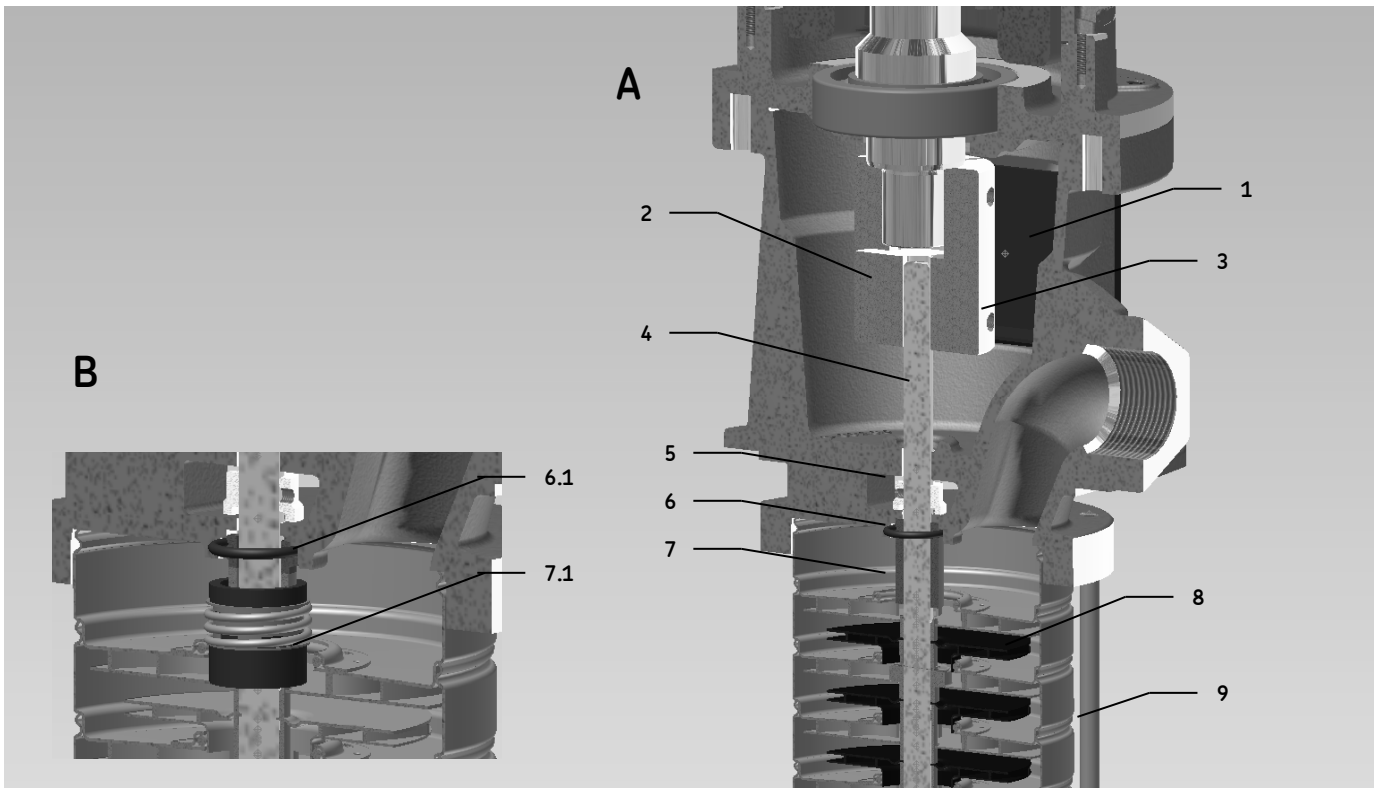

Fig. 3 - Cross section of PSR coupling pump
Work should always take place in accordance with Fig. 3. All PSR immersion pumps share a structure which is more or less the same, so Fig. 3 can be used for all types.
In the case of pumps with a sealing bushing (Fig. 3-A), the sealing bushing itself (7) and the O-ring (6) are replaced. When you insert the new O-ring, make sure that it sits neatly in the groove.
In the case of pumps with a face seal (Fig. 3-B), the slide ring (7.1) and counter-ring (6.1) must be replaced. It may be necessary to lever out the counter-ring with a suitable tool. When handling the parts, do not touch the sliding surfaces with your hands or get any grease on them.